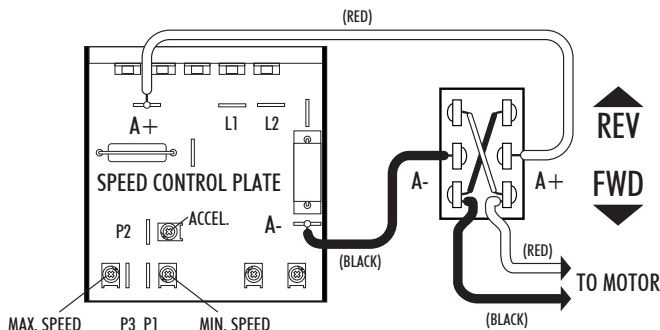

FIGURE 1—Wiring the switch to reverse motor direction. Also shown are lug attachment points and wire colors for the Sherline DC motor.
The modification requires adding a double pole, double throw (DPDT) switch to reverse the A+ and A- leads. The switch should be of at least 6 amp capacity. Switches of this type can be purchased at most electronics stores or from electronic component catalogs. The Radio Shack part number for a switch we have used is 275-663B. It is called a “mini toggle DPDT 6A @ 125 VAC”. See Figure 1 for the proper way to wire the switch to accomplish this.
2. Solder the crossover wires from corner to corner on the switch terminals as shown in Figure 1. Cut the wires as short as you can to make this connection as compact as possible.
3. Solder ends of black and red motor wires to end terminals of switch as shown in Figure 1.
4. Solder new red and black wires to side (A+ and A-) terminals on the switch as shown in Figure 1. Crimp or solder on new female connectors to these wires.
5. Connect these to the A- and A+ terminals on the speed control board. (See Figure 1 for locations.)